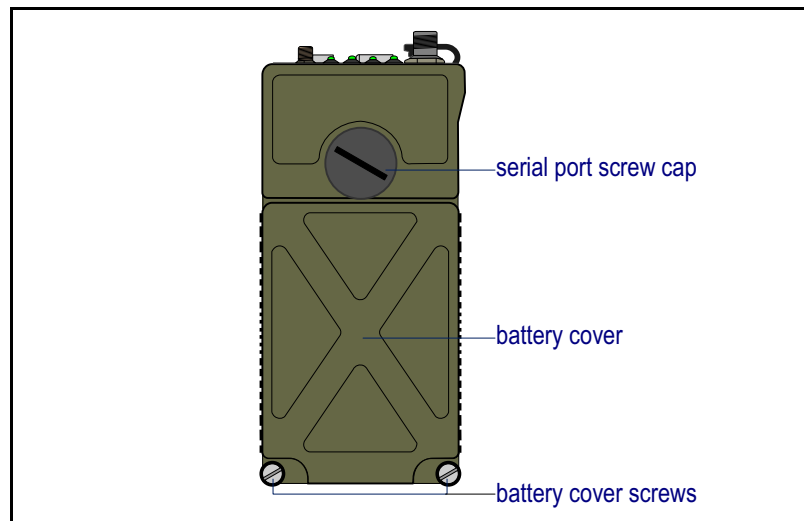

Figure 2.1. ES210 Battery Cover with Screws and Serial Port Cap
- 1 Unscrew the ES210 battery cover screws and lift the battery cover (Figure 2.1).
- 2 Unscrew the battery cover screws and lift the battery cover (Figure 2.1).
The Mesh Point's serial console port is located under the screw cap on the front of the chassis, above the battery compartment, as shown in Figure 2.1.